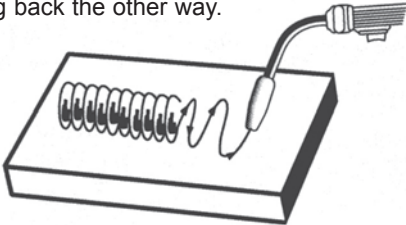

Figure 13. Weave Bead
2. The **WEAVE BEAD** (Figure 13) is used when you want to deposit metal over a wider space than would be possible with a stringer bead. It is made by weaving from side to side while moving with the torch. It is best to hesitate momentarily at each side before weaving back the other way.